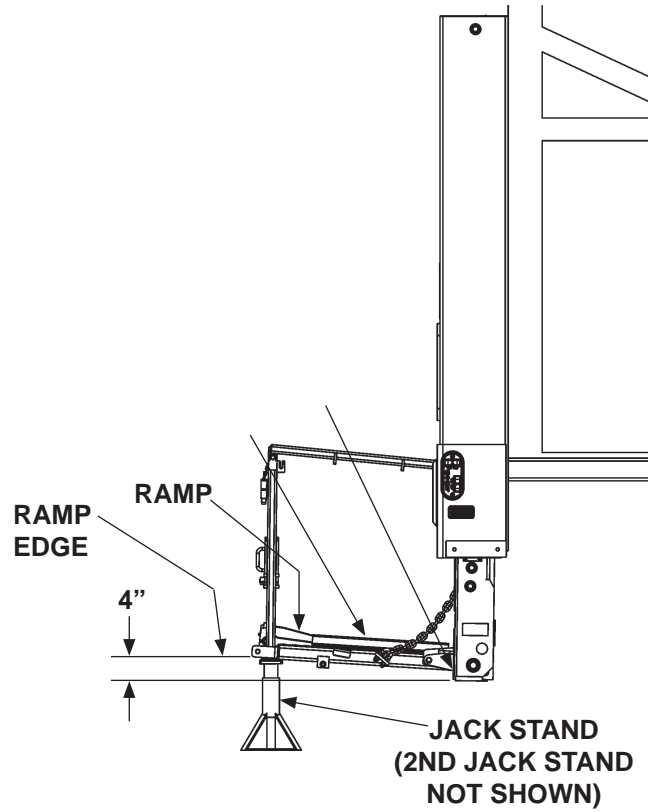

FIG. 44-1
41. Raise the platform (**UP**) slightly and remove 2 jack stands near the inboard edge (**FIG. 44-1**).
42. Lower (**DOWN**) platform on jack stands (**FIG. 44-1**) so inboard edge is 4" below ramp edge.